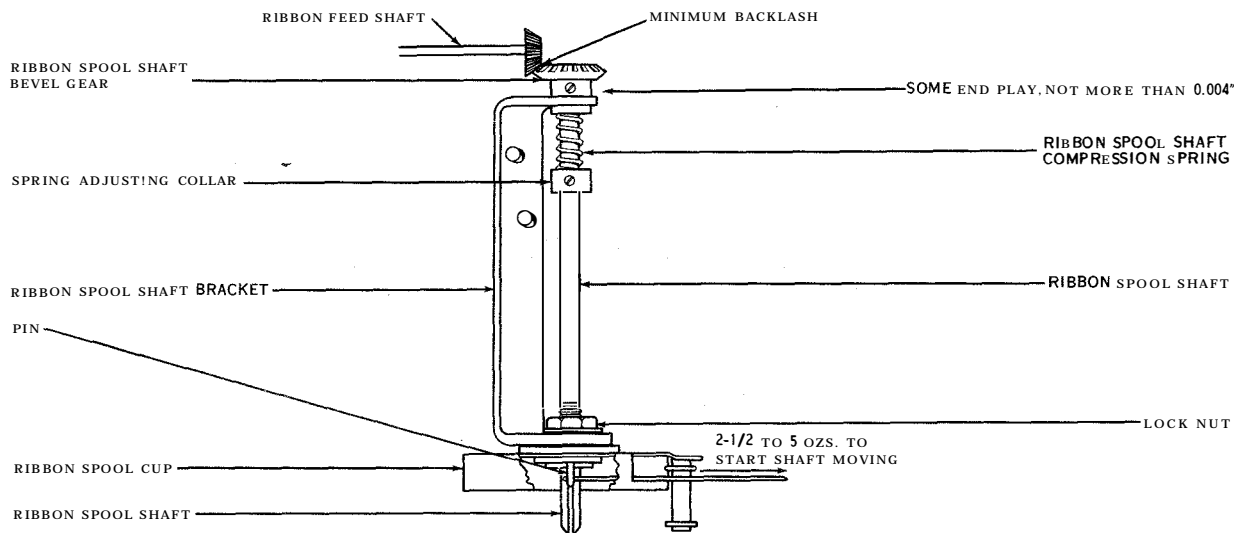

Figure 7-43. Ribbon Spool Shaft Gears and Bracket
(33) RIBBON SPOOL SHAFT GEARS. (See figure 7-43.)—The ribbon spool shafts should have some end play, not over 0.004 inch. To check, push the ribbon spool shaft toward the rear of the unit. (Shift the ribbon feed shaft if necessary to avoid interference.) To adjust, position the ribbon spool shaft bevel gear, locating it so that the setscrew engages the flat on the shaft.
(34) RIBBON SPOOL SHAFT BRACKETS. (See figure 7-43.)—The ribbon spool shaft brackets should align with the edges of the base plate and there should be a minimum amount of backlash between the bevel gears on the ribbon spool shafts and ribbon feed shaft. To check, move the ribbon feed shaft to its extreme left- and right-hand positions and check the backlash throughout a complete revolution. To adjust, position the ribbon spool shaft brackets.
(35) RIBBON SPOOL SHAFT COMPRESSION SPRING. (See figure 7-43.)—A tension of 2½ to 5 ounces should be required to start the ribbon spool